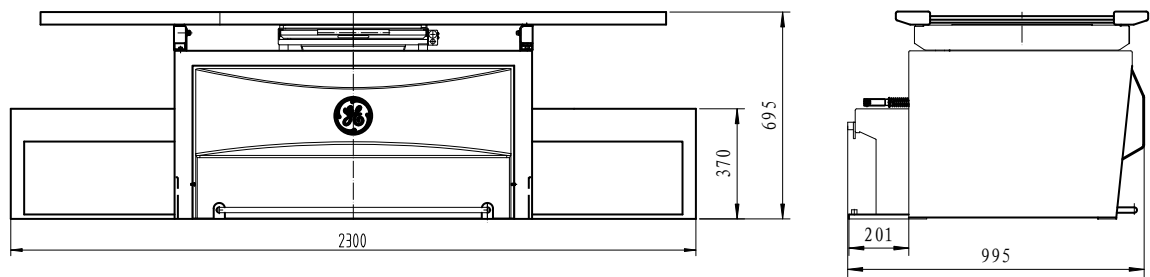
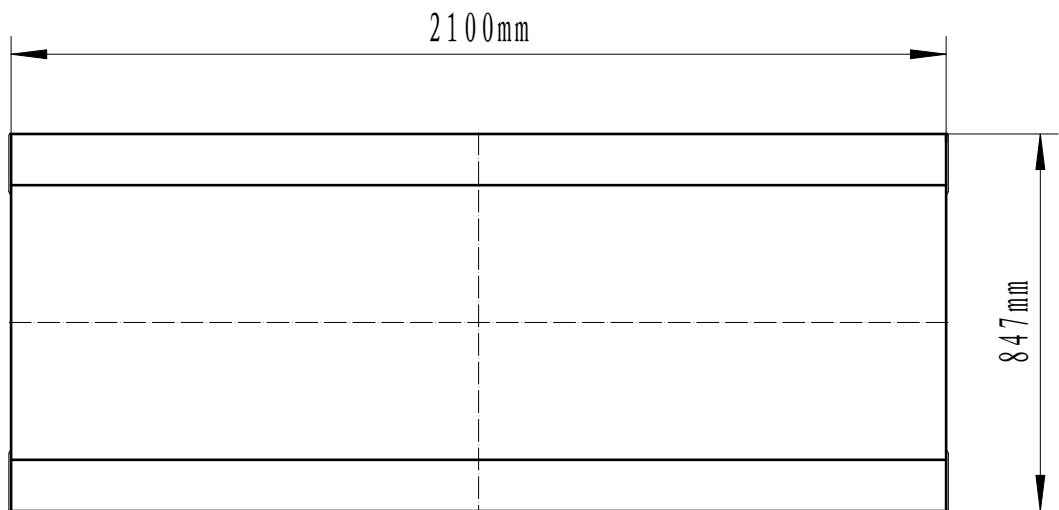

Figure 5-6 Table Dimensions
Figure 5-7 Table Top Dimensions
- Radiographic Table - Figure 5-6 through Figure 5-7.